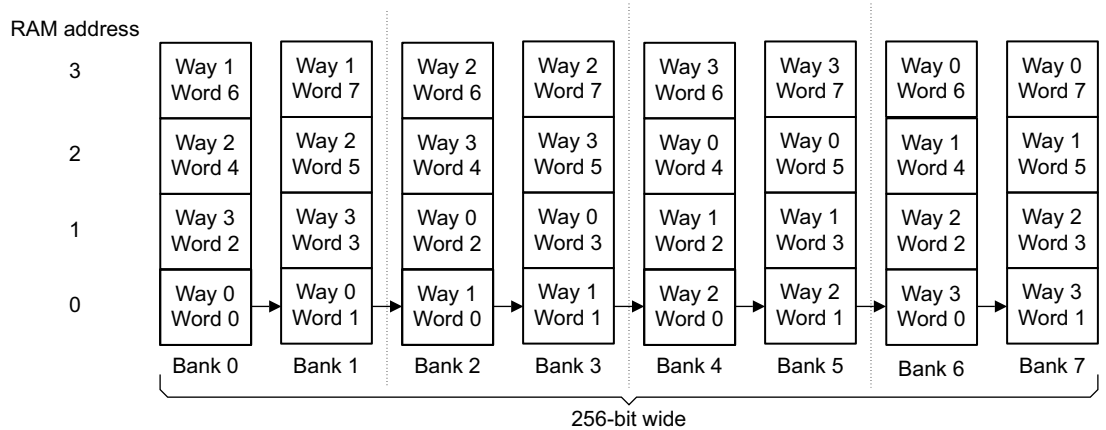

Figure 8-3 Nonsequential read operation performed with one RAM access.
- Perform a cache look-up with one RAM access, all banks selected together. This is done for nonsequential read operations. Figure 8-3 on page 8-28 shows this.
Figure 8-3 shows a cache look-up being performed on all banks with one RAM access.